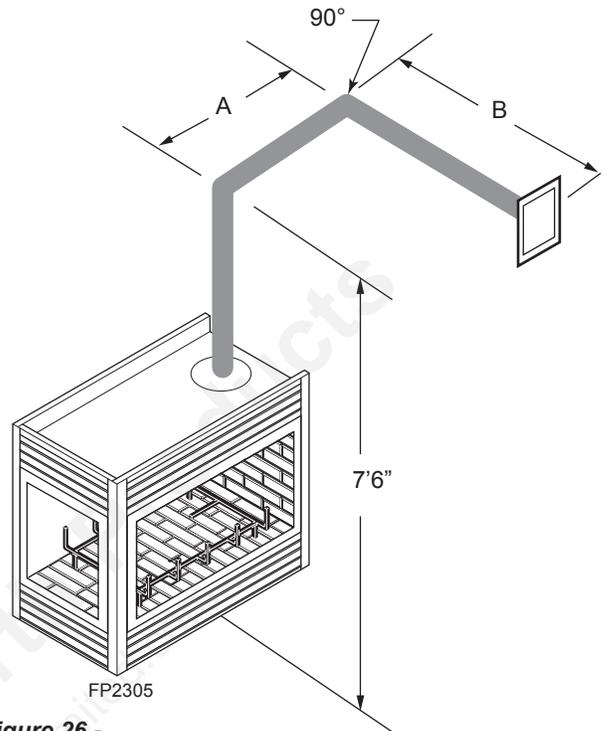

Figure 26 - Horizontal Run Reduction
- If a 90° elbow is used in the horizontal vent run, the horizontal vent length is reduced by 36" (914 mm). *Figure 26*. This does not apply if the 90° elbows are used to increase or redirect a vertical rise. *Figure 26*